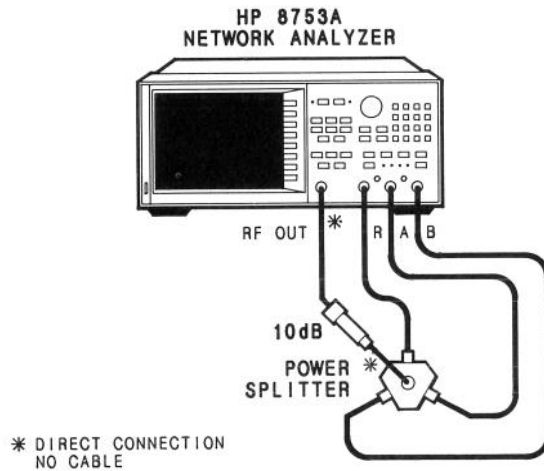

Figure 6. Trace Noise Test Setup
1. Connect the equipment as shown in Figure 6.